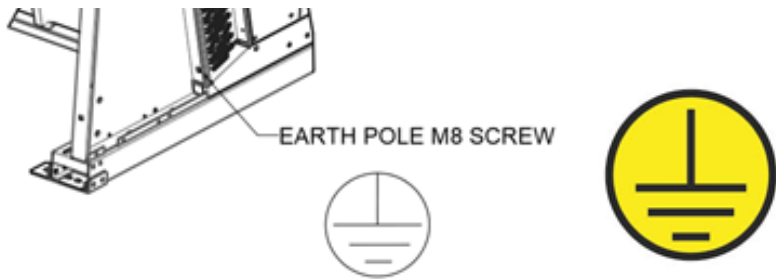

Fig. 6.3 - Detail of the position of the ground pole.
Before connecting the unit to the electricity network, check that the disconnection and interruption devices from the power supply network have been used, and anything else required by current legislation at installation site. The unit is equipped with one or more ground poles (PE) with an identification label. **It is mandatory to connect all the ground poles of the unit to the system or to the external grounding conductor** (see Fig. 6.3).